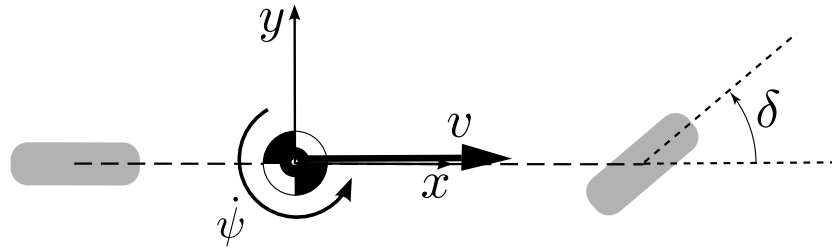

Figure 5: Bicycle model defining steering angle  $\delta$  (drawn in positive direction after "ISO 8855" coordinate system  $\Rightarrow z$  up) and speed  $v$ .
- DE7.3.1 A Data Logger (DL) described in the additionally published document "Data Logger Specification" will be mounted to the vehicle.
- DE7.3.3 Beside Remote Emergency System (RES) messages (see DE7.4.9), the messages defined in Table 4 must be provided to the DL with a cycle time of 100 ms each. Steering angle  $\delta$  and vehicle coordinate system is defined in figure 5.